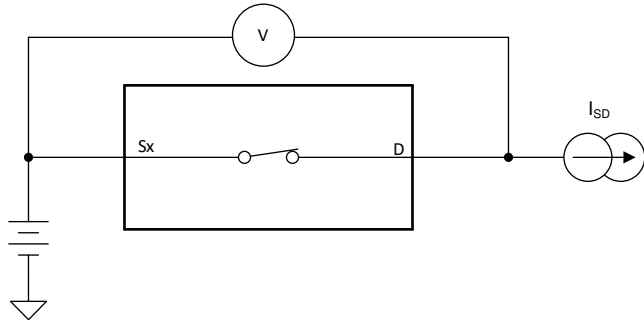

图 7-1. On-Resistance
The on-resistance of a device is the ohmic resistance between the source (Sx) and drain (D) pins of the device. The on-resistance varies with input voltage and supply voltage. The symbol  $R_{ON}$  is used to denote on-resistance. 图 7-1 shows the measurement setup used to measure  $R_{ON}$ . Voltage (V) and current ( $I_{SD}$ ) are measured using the following setup, where  $R_{ON}$  is computed as  $R_{ON} = V / I_{SD}$ :